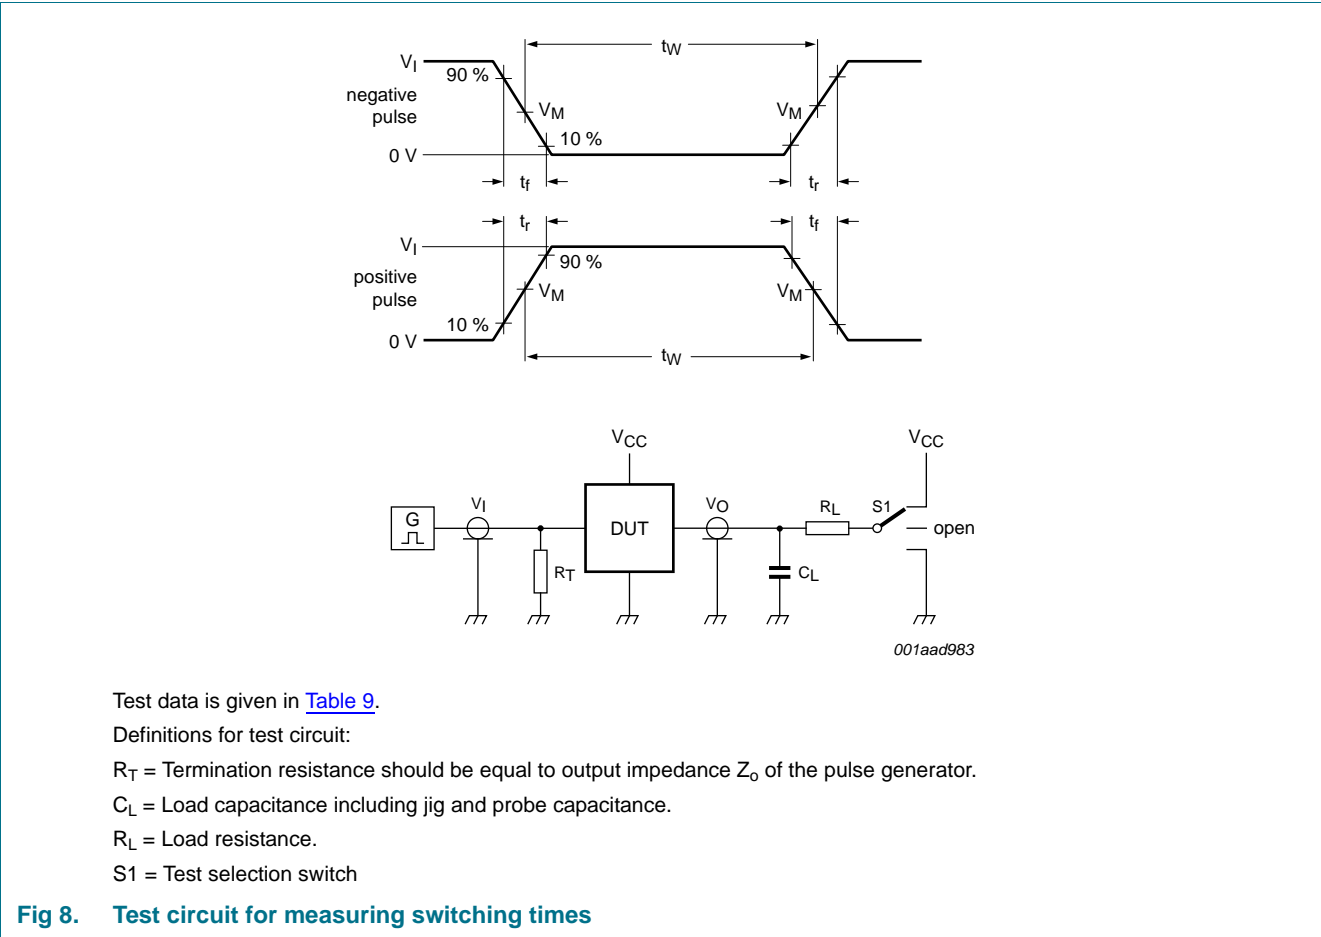

Fig 8. Test circuit for measuring switching times
**Table 7.** Dynamic characteristicsGND (ground = 0 V); CL = 50 pF unless otherwise specified; for test circuit, see Figure 8
**Table 7. Dynamic characteristics ...continued**GND (ground = 0 V);  $C_L = 50$  pF unless otherwise specified; for test circuit, see Figure 8